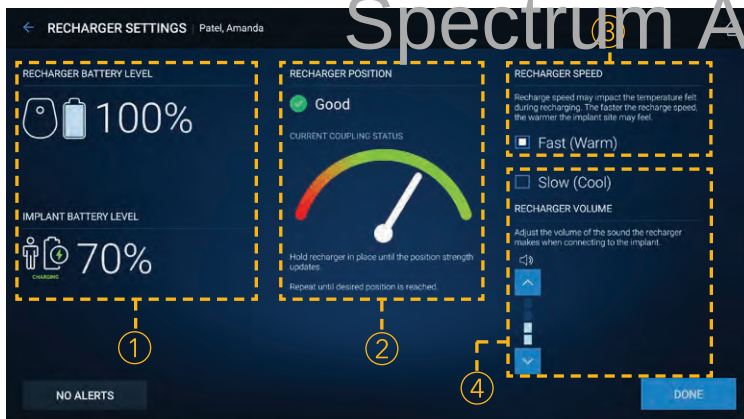

Figure 48. Recharger Settings screen
2. On the Recharger Settings screen (Figure 48), you can:
- ① Check recharger and neurostimulator battery levels (page 47)
- ② Check recharge coupling status (page 51)
- ③ Adjust recharge speed (page 52)
- ④ Adjust recharger volume (page 52)
1. On the Recharger Settings screen (Figure 48-③), select the speed (fast or slow) that is most comfortable.
In the clinician app, the volume settings for the recharger can be accessed from the Recharger Settings screen (Figure 48-④).